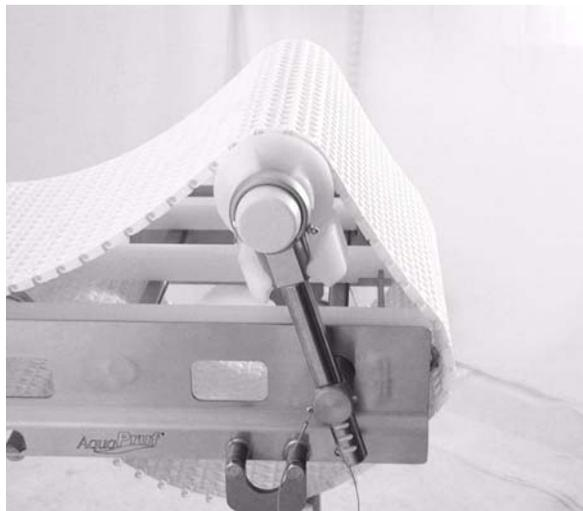

Figure 46
1. Tip up idler tail assembly (**Figure 46**).